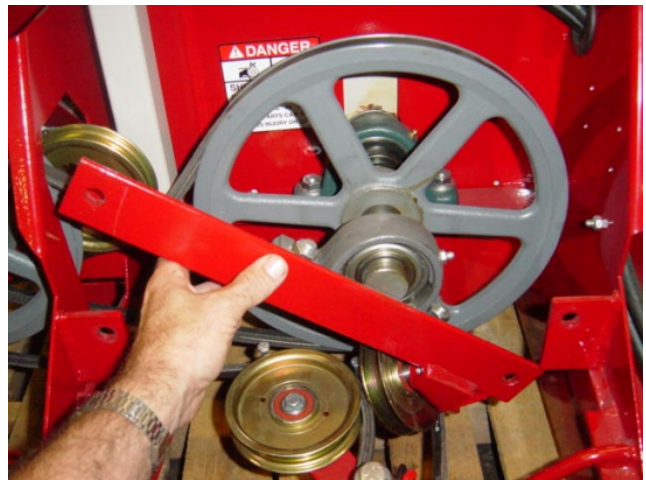

Figure 5
3. Rotate the bracket as shown in Figure 5.